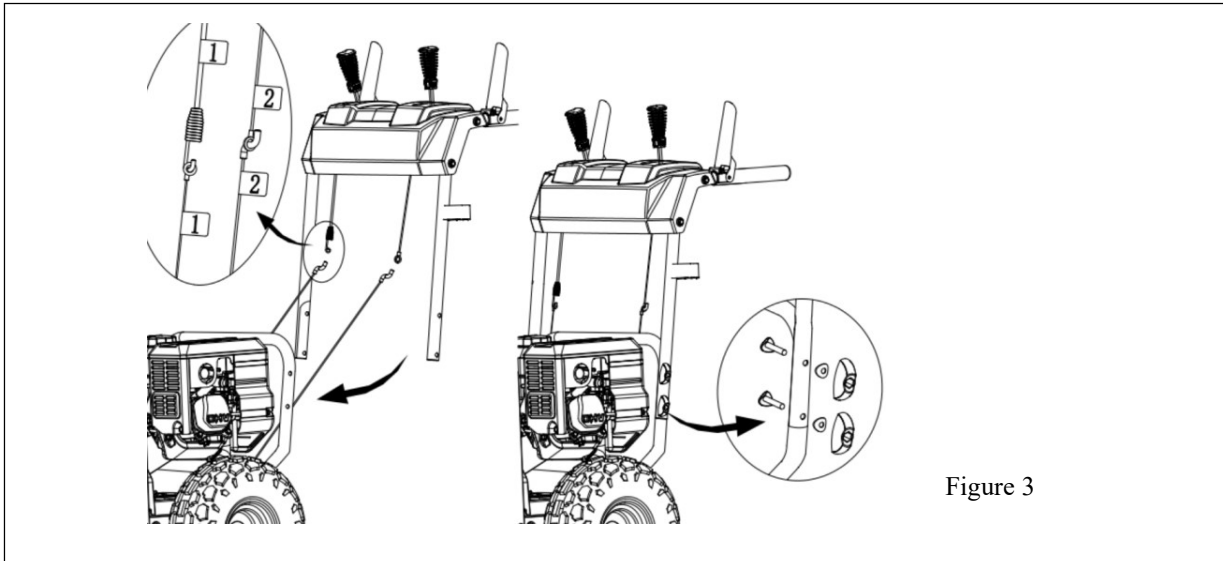

Figure 3
3. When attaching Assembly Hardware, make sure ALL cables are underneath the Frame (Upper & Lower) Handles after installation as indicated in Figure 3. VERY IMPORTANT!!!\*\*
5. Verify that the connection for the Upper & Lower Drive/Auger Cables is accurate. (See Figure 3)